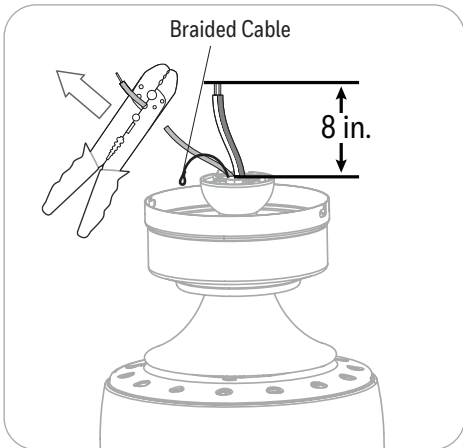

Figure 3.4
4. Depending on the length of downrod you use, you may want to cut the fan wires to simplify wiring. After pulling the wires all the way through the downrod, measure 8 inches of wire. Cut off the excess wire using wire cutters (not included). **WARNING:** Do NOT cut braided cable. Then strip 1/2 inch of insulation from the end of each wire strand (Figure 3.4).